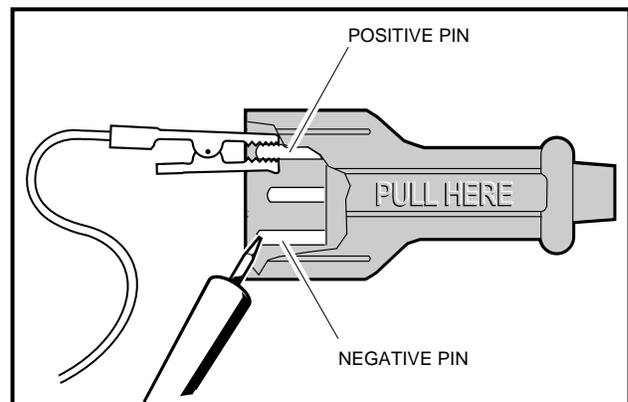

Figure 14-16 DC Plug Reverse Test Leads
2. Reverse the test leads and check the DC plug again (**Figure 14-16, Page 14-15**). The circuit should show continuity in only one direction.